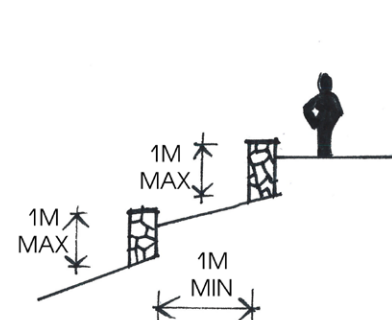

Figure 4
- Terraced retaining walls shall be used where cut and fill is higher than 1m (see figure 4 sketch).